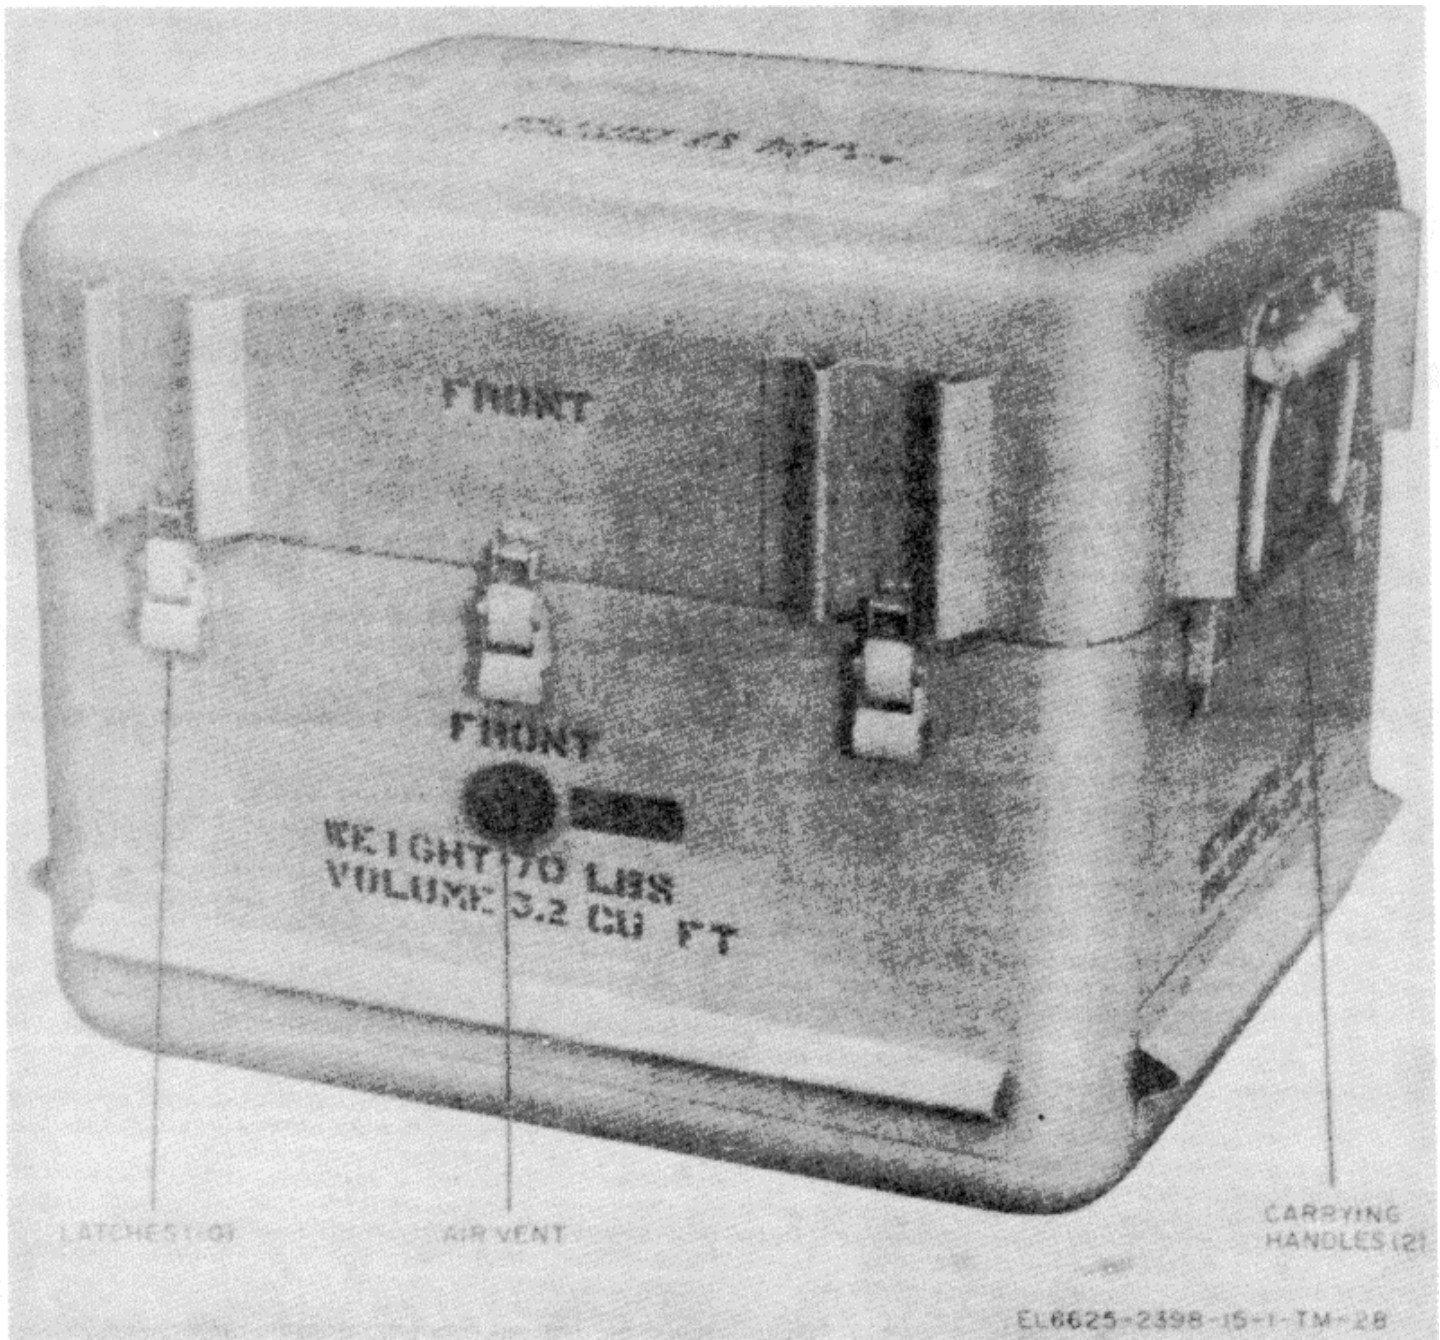

Figure 1-2. Case, Test Facilities Set CY-6824/TPM-24(V)1
(fig. 1-2, 1-3, and 1-4)
a. *Transit Case.* The transit case (fig. 1-2) is a reusable protective case which houses the components of the test facilities set during transit or storage. Two handles are provided for lifting and moving the transit case. The transit case consists of a top section and a bottom section (fig. 1-1); the top section comes apart from the bottom section when the spring-loaded latches holding the two sections together are released. The top section contains a compartment into which coiled cables are placed for storage. The bottom section contains a foam filler, with cutouts for storing the other components of the test facilities set. The index card locates the correct storage space for all components. Gasketing around the edge of the top section mates with the bottom section edge to provide a watertight seal for the transit case when the spring-loaded latches are locked, and the pressure-relief valve is closed.